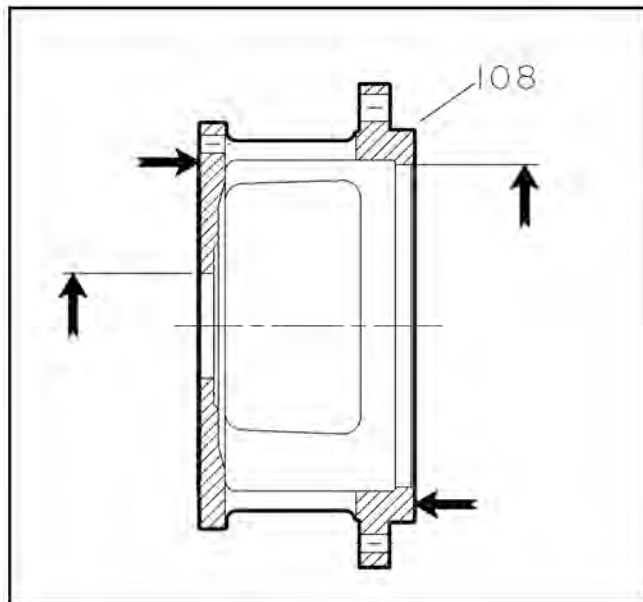

Figure 49:
2. Install frame adapter (108) onto motor. Align bolt holes with those on frame (Fig. 49).